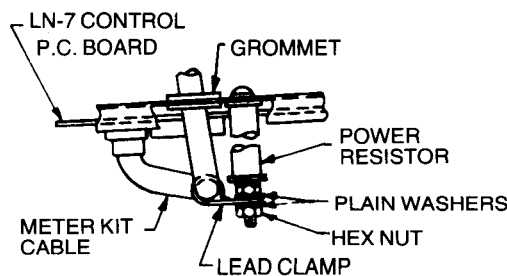

FIG. 3
7. Push the rubber grommet on the meter kit cable into position in the .88 diameter hole. Attach the lead clamp on the meter kit cable to the top of the power resistor mounting screw as shown in Figure 3. Check to see that the meter kit cable does not touch the power resistor and that it is not pinched or strained when the drive roll cover door is raised and lowered. With the door raised, there must be 1/2" or greater clearance from the cable to the hinge.
8. Replace the control side cover and (4) self-tapping screws. Reconnect input control cable.